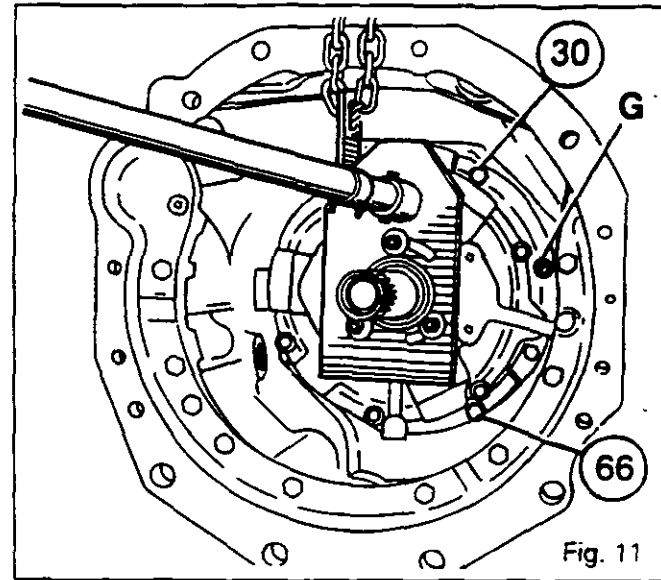

Fig. 11
7. Remove two screws (30) diametrically opposed and screw two guide studs "G" (Fig.11). Remove the other six screws.
8. Unscrew the three bolts (66) gradually and alternately (Fig. 11) (flat to flat dimension 13 mm) fixing the housing (21) on the reverse shuttle housing (40).